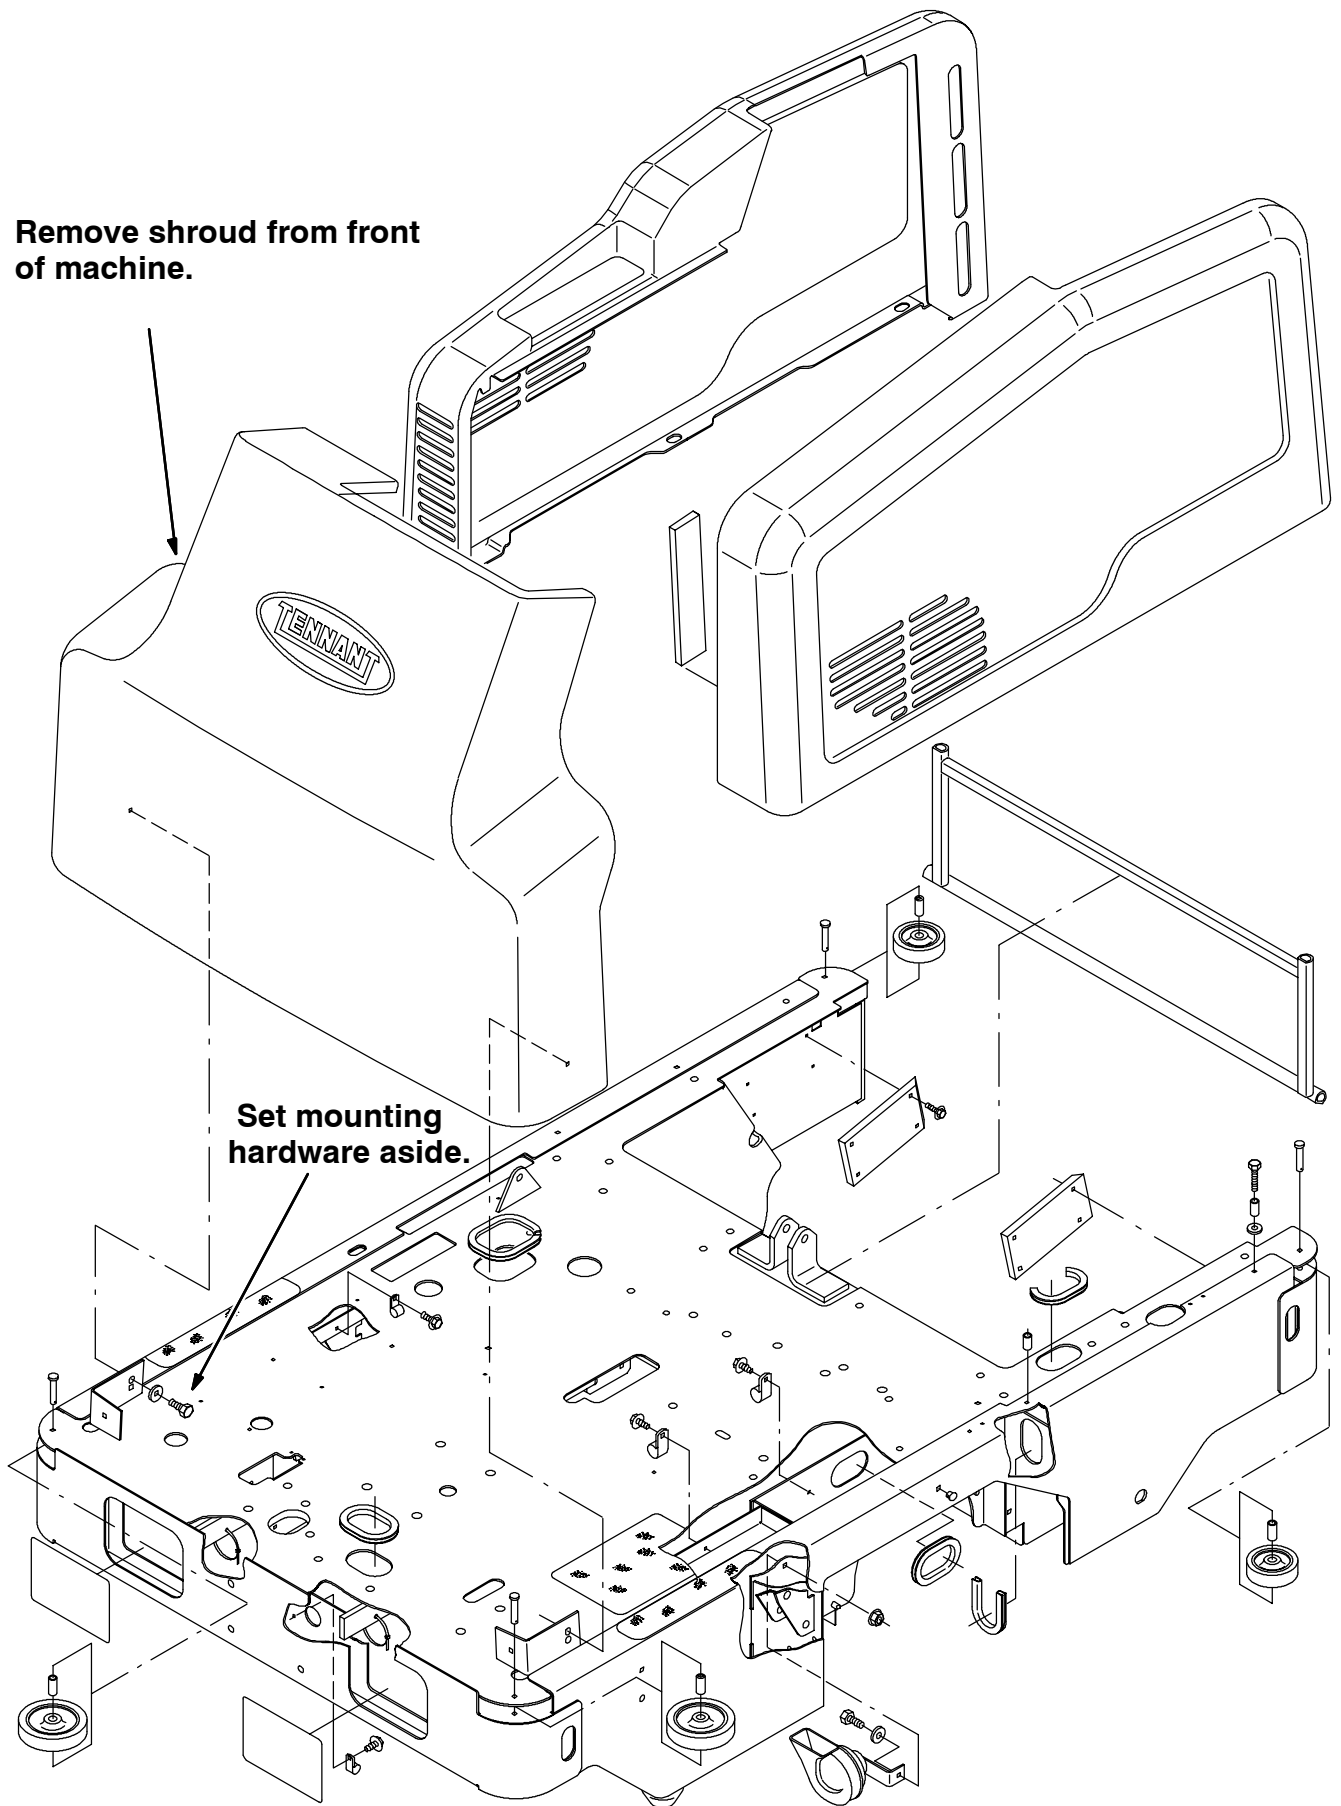

FIG. 1 - FRONT SHROUD REMOVAL
(Refer to FIG. 1 thru 7)
1. Remove the front shroud from the machine. Set the front shroud mounting hardware aside. (Refer to FIG. 1)
10. Secure the front shroud in place with the set aside mounting hardware. (Refer to FIG. 1)
11. Route the long end of the new wire harness (3) down to the main harness, and back to the engine/ fuel tank area using wire ties (4) to hold it in place on the machine frame.
15. Install the new straight fitting (6) in the bottom of the new fuel tank (1). Install the new fuel valve (7) in the new straight fitting (6) in the bottom of the new fuel tank (1).
16. Install the new plug fitting (8) in the top of the new fuel tank (1)